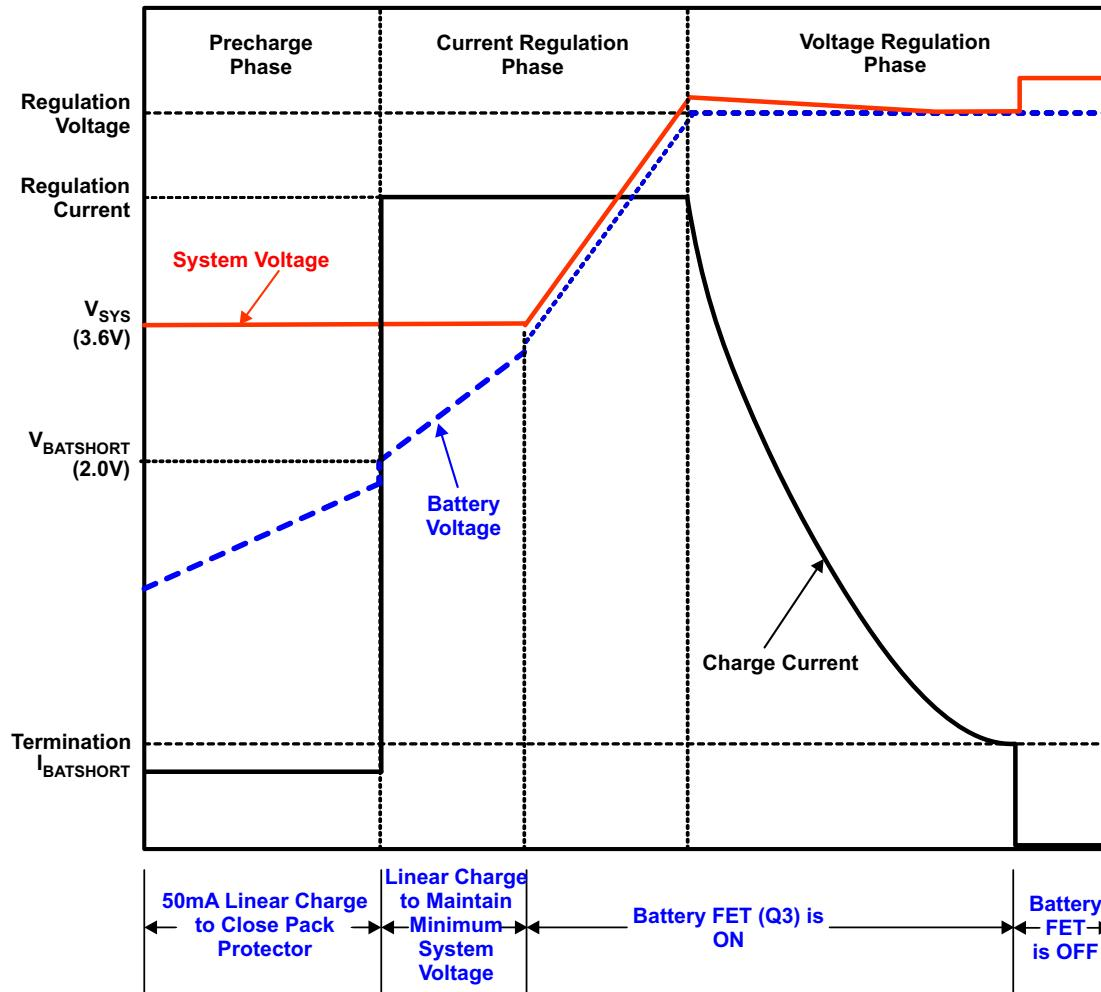

Figure 10. Typical Charging Profile of bq24260/1/1M/2 With Termination Enabled
The bq24260/1/1M/2 supports a precision Li-Ion or Li-Polymer charging system for single-cell applications. Charging is done through the internal battery MOSFET. There are 6 loops that influence the charge current; constant current loop (CC), constant voltage loop (CV), thermal regulation loop, minimum system voltage loop (MINSYS), input current limit and V_{IN} -DPM. During the charging process, all six loops are enabled and the one that is dominant takes control. The minimum system output feature regulates the system voltage to $V_{SYSREG(LO)}$, so that startup is enabled even for a missing or deeply discharged battery. Figure 10 shows a typical charge profile including the minimum system output voltage feature.
Once the battery is charged enough that the system voltage rises above $V_{SYSREG(LO)}$ (approximately 3.5 V), the battery FET is turned on fully and the battery is charged with the full programmed charge current set by the I²C interface, I_{CHARGE} . The charge current is regulated to I_{CHARGE} until the voltage between BAT and PGND reaches the regulation voltage. The voltage between BAT and PGND is regulated to V_{BATREG} (CV mode) while the charge current naturally tapers down as shown in Figure 10. During CV mode, the SYS output remains connected to the battery. The impedance of the battery FET is increased to 4x of the fully on value when IBAT falls below approximately 350 mA to provide increased accuracy during termination. This will show a small rise in the SYS voltage when the R_{DSON} increases below approximately 350 mA.